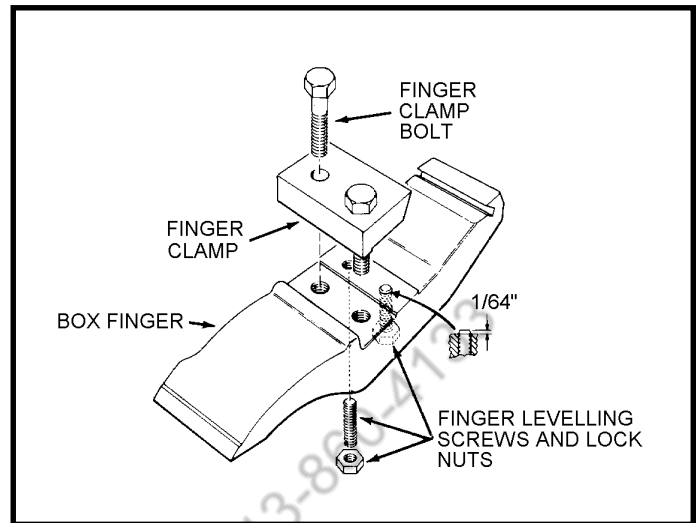

Figure 16. Box and Pan Finger
4. Loosen Finger Clamp Bolts (figure 16) and hook finger into dove tail of Upper Beam. Position lip of Clamp over Upper Beam Jaw and tighten Finger Clamp Bolts securely.
1. Choose a 4" to 6" width finger and set the Finger Leveling screws (figure 16) until end of each screw protrudes  $1/64$ " above mounting surface of the finger. Lock the screws in this position by securely tightening Finger Leveling Lock Nuts.